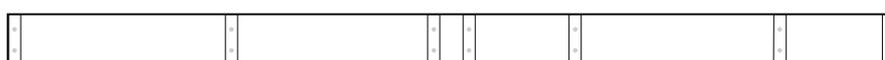

Fig. 22
- Screw in all the parts with  4x60 screws (fig.22)